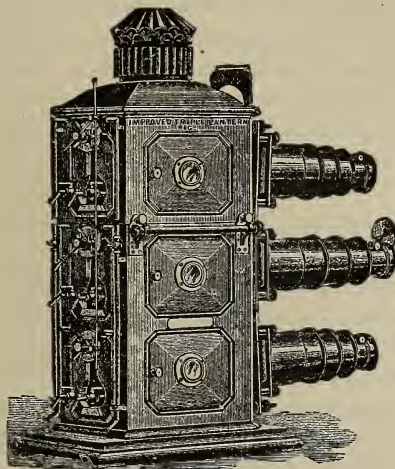

FIG. 15.
*Triunial; or, Triple Lantern.*—This form of lantern seems to be in favor in England, and is used to some extent in this country. (See Fig. 15.) The advantage of a third lantern is for producing some pleasing effects, among which are